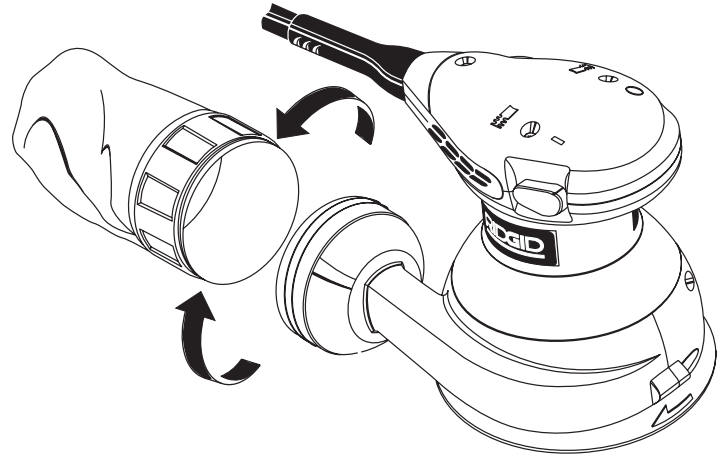

Fig. 4
See Figure 4.
2. Using a slight twisting motion as shown in figure 4, firmly slide dust bag assembly in blower exhaust on sander.